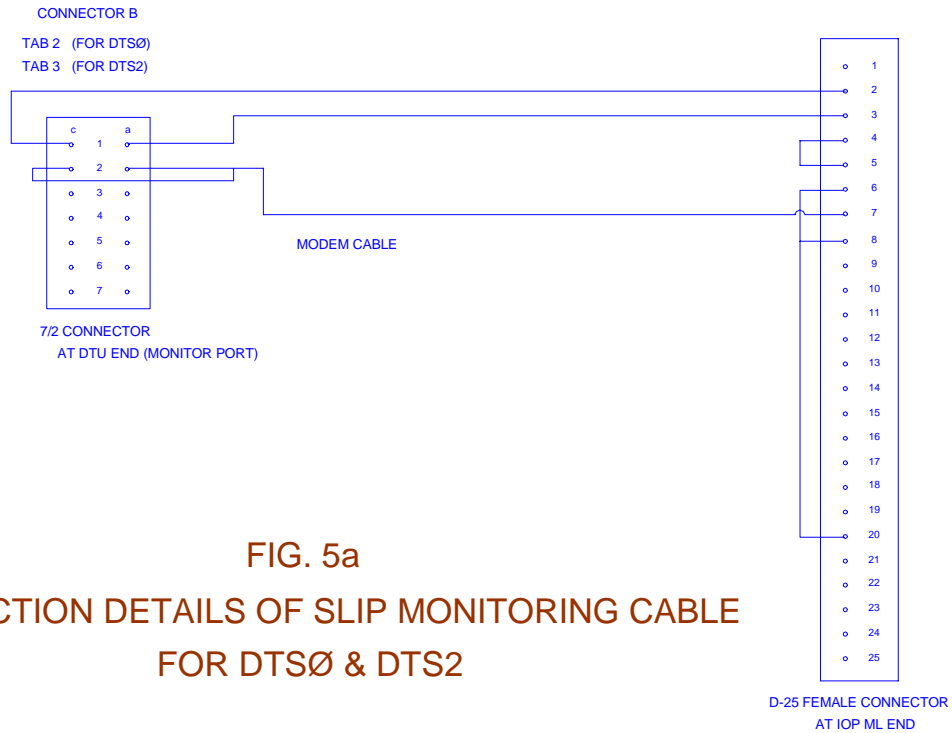

FIG. 5a
2. A RS232 cable between the selected DTS and IOP. (Please refer to Figures 5a & 5b for connection details when IOP ML / IOPXL is used and figures 5c and 5d for connections when IOPVH is used).